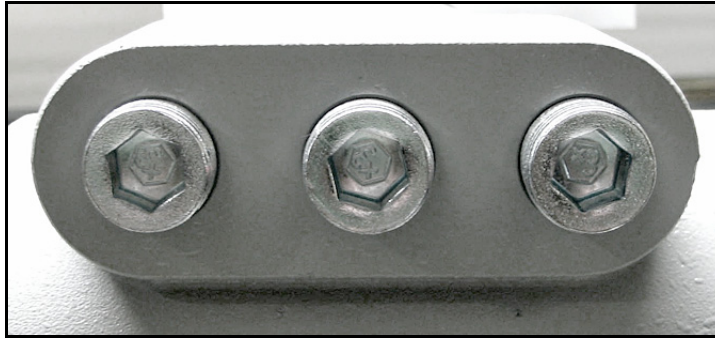

Figure 24: Conduit Inlet Ports
1. **Aurora H2O** has three $\frac{3}{4}$ " NPT conduit inlet ports for power and I/O (see *Figure 24* below). These will normally be shipped plugged from the factory. Follow the applicable wiring code and requirements for wiring the unit.